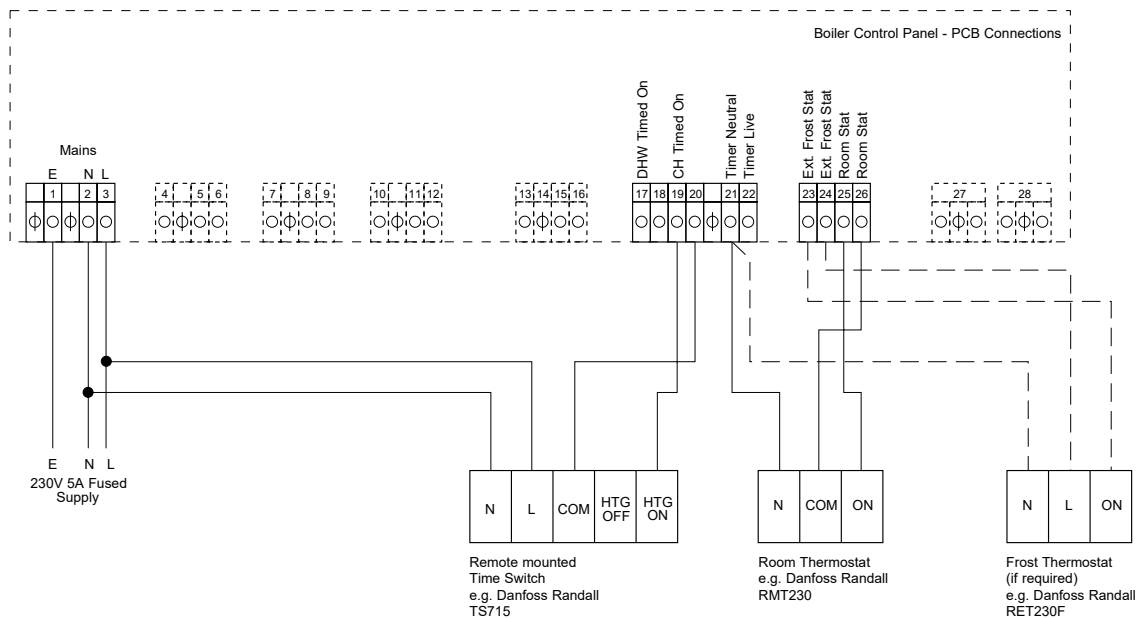

Figure 8-2: Connections for a remote timer and room thermostat
Any remote timer must be of a single channel 230V type with voltage free output contacts. Refer to Figure 8-2 for connection details.
6. Remove the Orange room thermostat link wire from terminals 25 & 26 on the connection block and connect the wires from the room thermostat. Refer to Figure 8-2 for further details
9. Connect the two switch wires from the timer to terminals 19 & 20 on the connection block, using Figure 8-2 for guidance.
10. Connect the live, neutral (and earth if required) from the timer to terminals 3, 2 & 1 respectively on the boiler terminal block. Refer to Figure 8-2 for further details.
- Frost thermostat Neutral (N) to terminal 21 on PCB connector.
- Frost thermostat Live (L) to terminal 24 on PCB connector.
- Frost thermostat Switched Live-ON (3) to terminal 23 on PCB connector.
6. Refer to Figures 8-2 to 8-4 for typical connection of Remote Frost Thermostat.